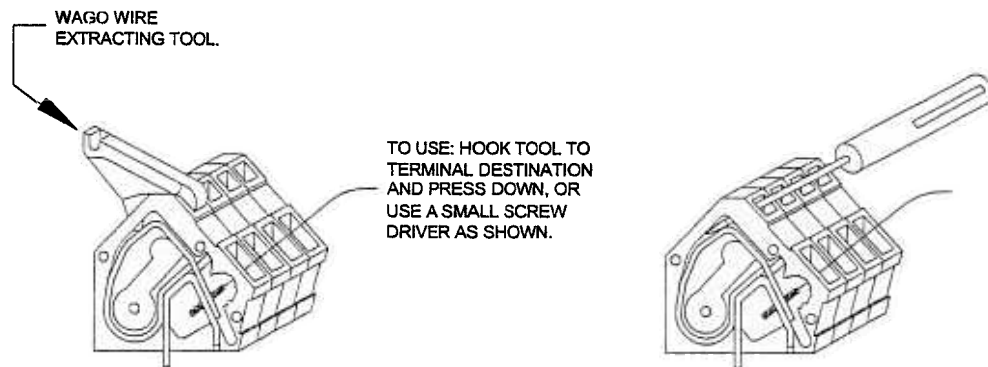

FIGURE 6 – TERMINAL INSTRUCTIONS
2.8 INPUT & OUTPUT SIGNALS: Low level and signal cable conductors connect to TB2 or TB3. Both terminal boards are gray in color. Terminals are spring-clamp type and require the use of a small blade type screw driver or an insertion tool – see Figure 6. Terminals are suitable for a conductor range of 22 AWG (0.33 mm²) to 14 AWG (2.1 mm²). Conductor insulation strip length is 0.22" (5.6 mm).